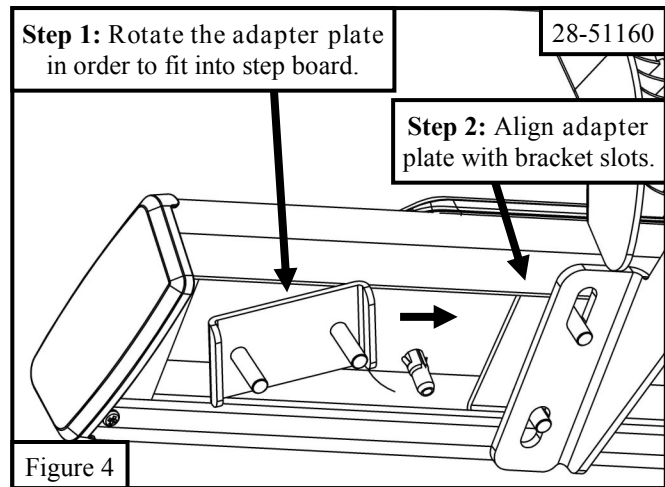

Figure 4
6. **For Part Numbers 28-51160:** Locate (1) driver side step board (Item 1) and (3) adapter plates (Item 6). Insert the adapter plates onto the step board and align with the previously installed mount brackets. Repeat for passenger side. (**Figure 4**)